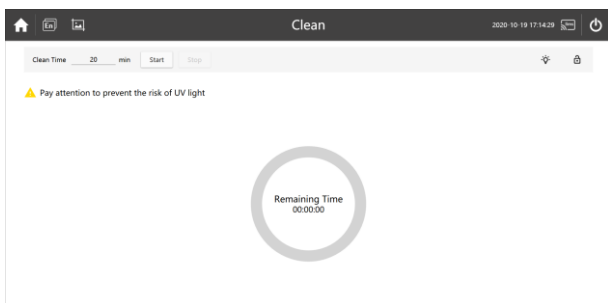

Figure 4 Clean Interface
- 4) Click the menu button and select **"Clean"** in the menu. Clear the operation platform and close the door. Click **"Start"** and start to clean (as shown in following figure 4).